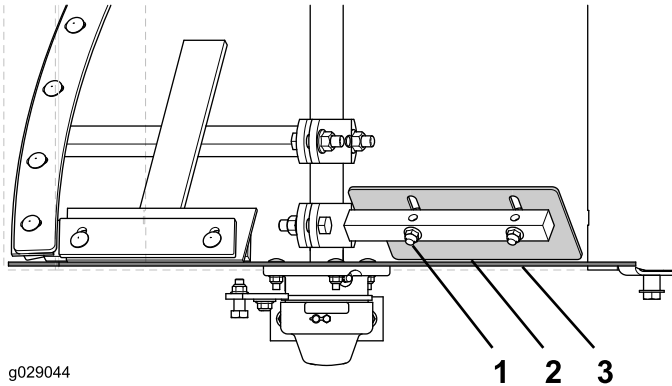

Figure 48
2. Loosen the carriage bolts and flanged locknuts that secure the adjustable end paddle to the fixed paddle. (Figure 48)